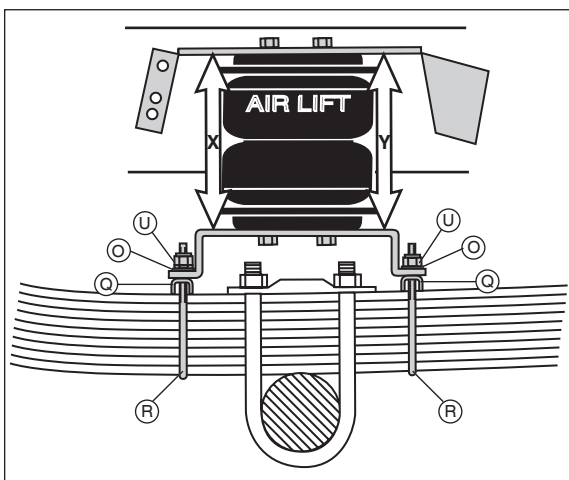

Figure 8
5. In some cases it may be necessary to use the optional spacers (Q) to achieve the 5"-8" space (Figure 8). For example, if only the top hole makes contact above the lower radius edge of the frame rail, it may be necessary to use the optional spacers (Q) under the lower bracket to achieve mounting height.
2. If the spacer is used, then place the spacers (Q) legs down on the leaf spring and attach the lower bracket securely using the provided U-Bolts (R), flat washers (O), and lock nuts (U) (Figure 8).